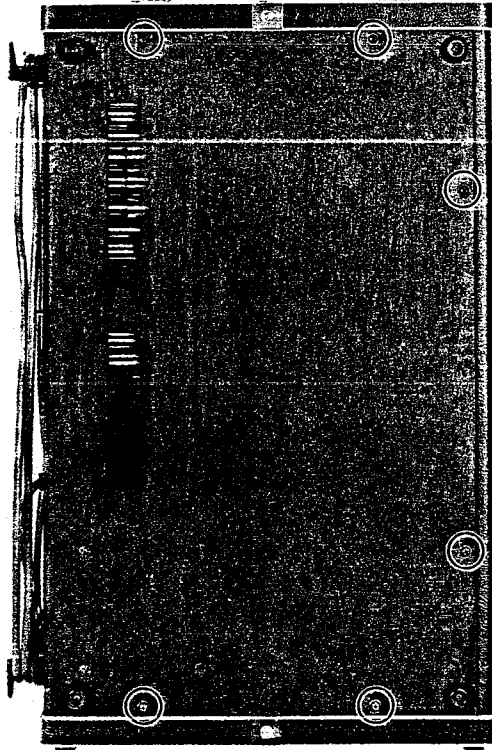

Figure 1
1. Set the unit up on its side and remove the 6 wood screws, as shown in Figure 1.